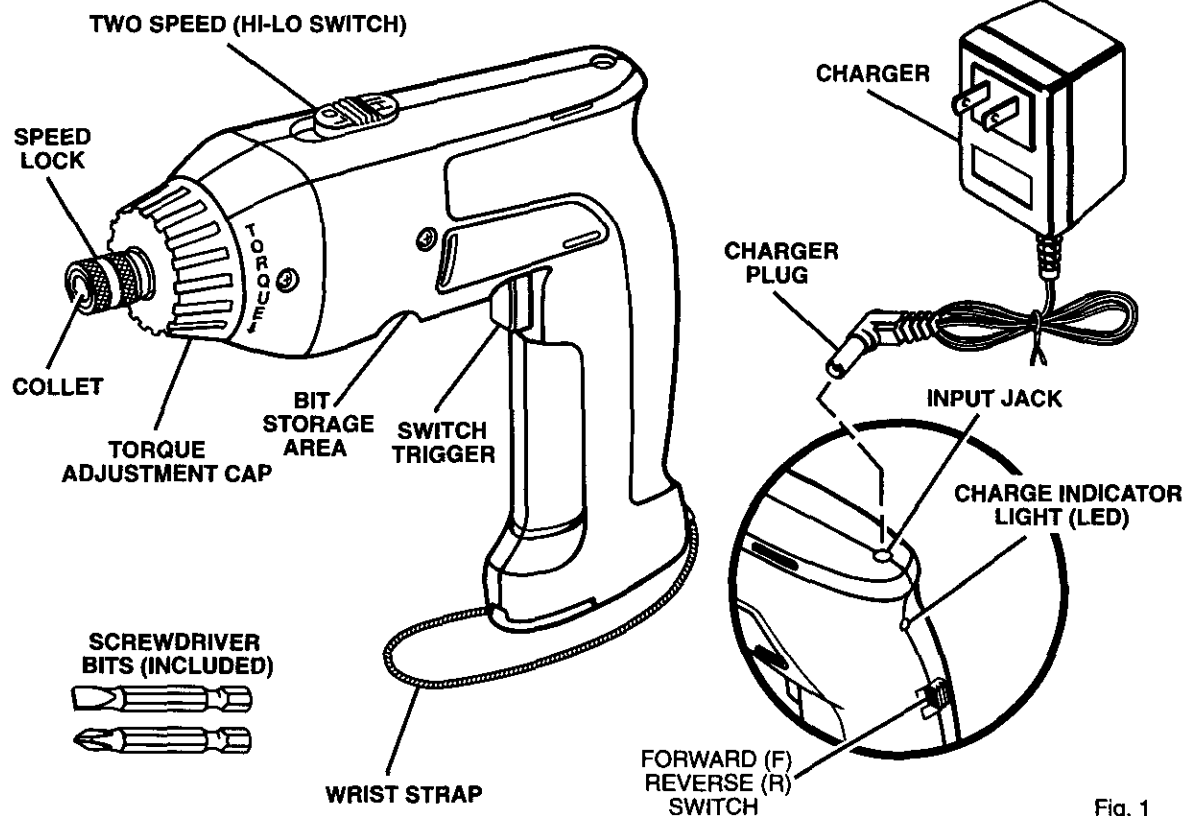

Fig. 1
See Figure 1.
- Connect charger to screwdriver by inserting charger plug into input jack. As shown in figure 1, input jack is located on the top of your screwdriver.